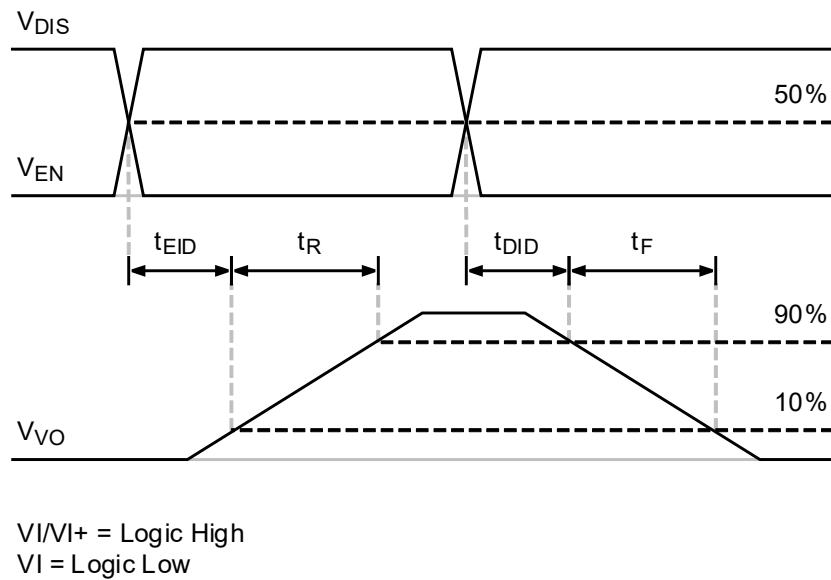

Figure 22. Enable or Disable Input Timing Measurements
3. See Figure 22, “Enable or Disable Input Timing Measurements,” on page 28 for details.